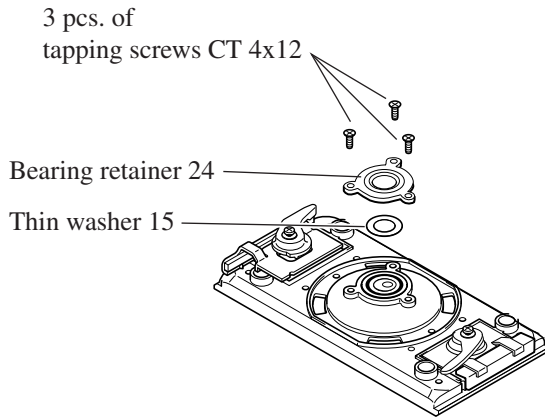

Fig. 8
1. Disassemble bearing 24 and thin washer 15 by unscrewing 3 pcs. of tapping screws as illustrated in Fig. 8.